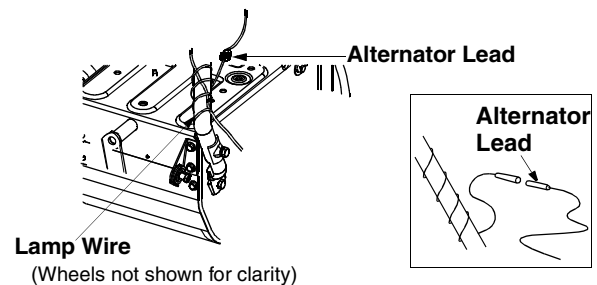

Figure 16
- Plug wire into the alternator lead wire under the fuel tank. See Figure 16.